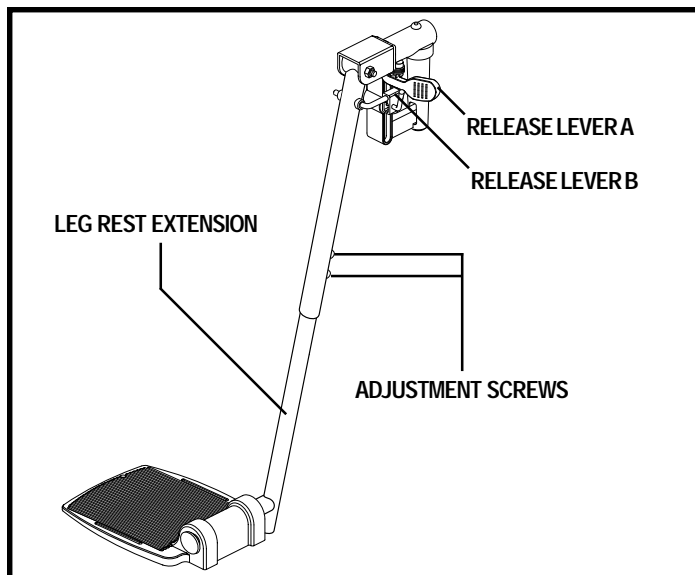

Figure 22. Elevating Leg Rests
1. Push in release lever A. See figure 22.
1. Push down release lever B. See figure 22.
1. Remove the two adjustment screws from the side of each leg rest extension. See figure 22.